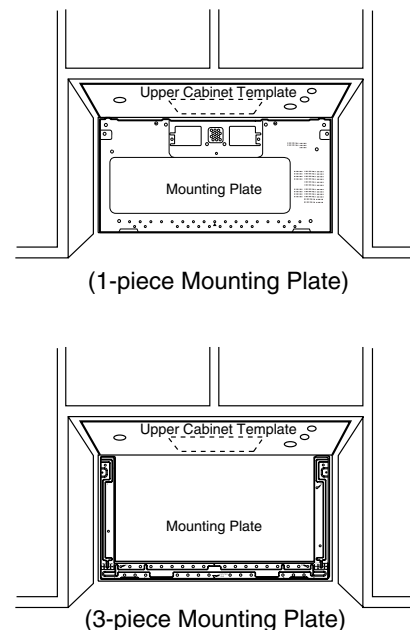

Figure 24
4. Center mounting plate in operating by lining up the plumb line on wall with centerline on mounting plate. Make sure the minimum width is 30 inches and that the top of the mounting plate is located a minimum of 30 inches above the cooking surface. See Figure 24.
5. Measure the bottom of the upper cabinet frame. Trim the edges A, B, and C on the upper cabinet template so that the template will fit on the bottom of the upper cabinet. If upper cabinet has a recessed frame, trim the template so it fits inside the recessed area. Align the centerline of the upper cabinet template with the centerline of the mounting plate, then securely tape or tack the upper cabinet template in place. See Figure 24.